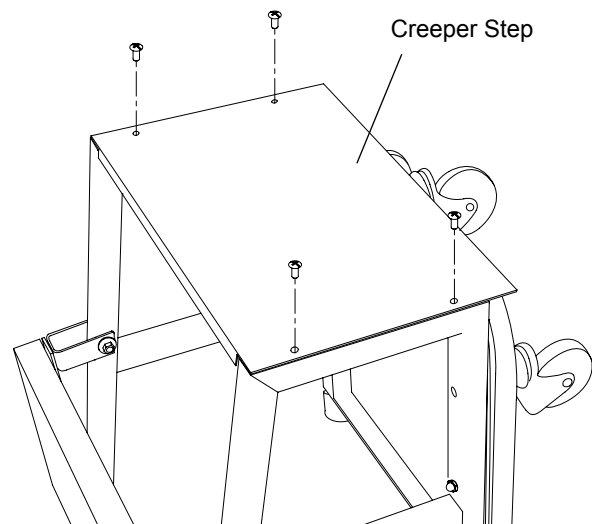

Figure 4 - Attaching Step to Side Frames
4. Fasten Creeper Step to Side Frames using four M6 x 16 Phillips Head Screws (Fig. 4), ensure that the Support Brackets are installed between the Creeper Step and Side Frames.